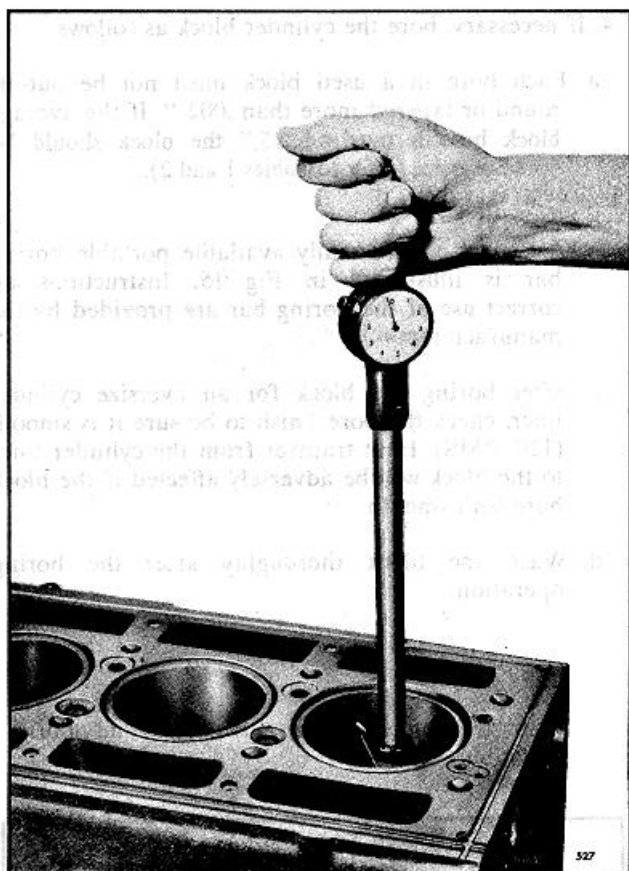
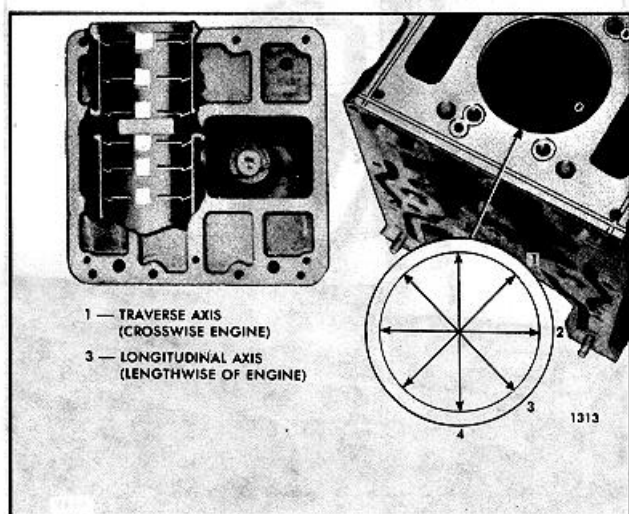

Fig. 12. Checking Bore of Cylinder Block
Fig. 13. Cylinder Bore Measurement Diagram
- b. Measure the entire bore of each cylinder with cylinder bore gage J 5347-01 (Fig. 12) which has a dial indicator calibrated in .0001 " increments. The standard block bore is 4.6260" to 4.6275." Place the bore gage in the master ring gage J 8386-01 which has an I.D. of 4.6270" and set the dial to zero. Take measurements on the cleaned-up surface only at positions A, B, C, D, E and F in the bore on axes 45° apart (Fig. 13). Read the measurements from the zero mark on the gage. The readings may be recorded on a form similar to the one illustrated in Fig. 14.